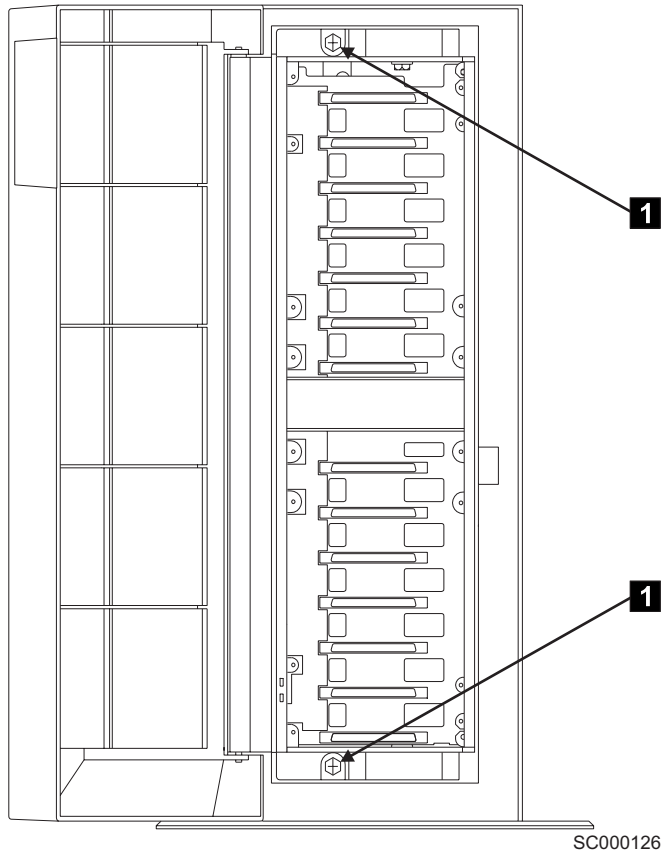

Figure 71. Removing the frame from a 2104 Model TS4 (1)
1. Remove the two front mounting screws **1** from the frame assembly, as Figure 71 shows.